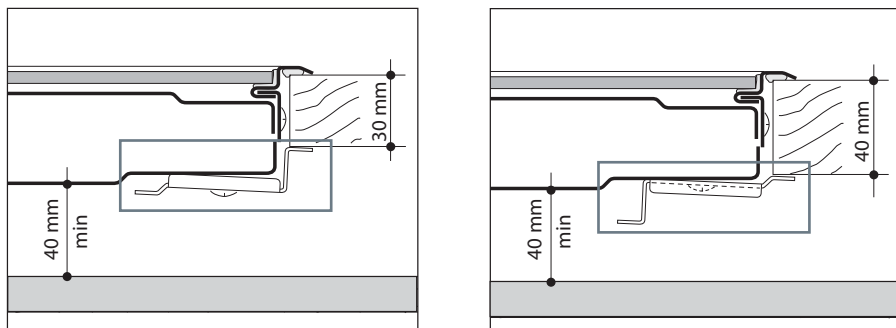

Fig. 5 Clamp adjustments depending on bench thickness
- 4 Adjust the clamps according to the benchtop thickness (see Fig.5), then tighten the fixing screws until the cooktop is firmly secured.